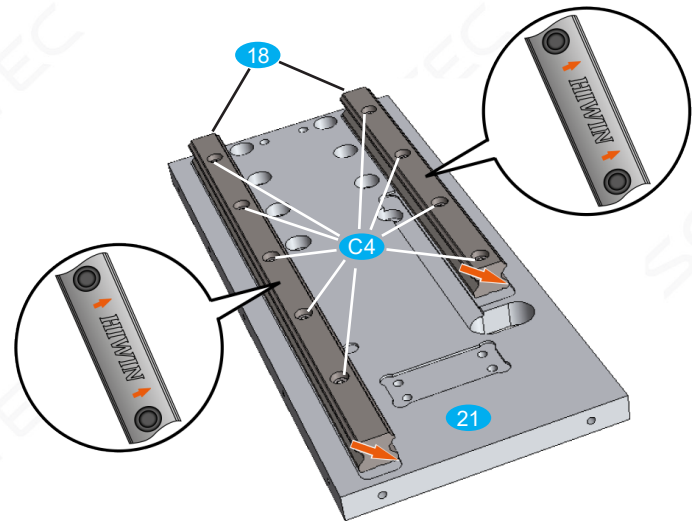

Fig. 24: Assembly of the linear rails
- Place the linear rails **18** on the plate **21** so that the reference edges (above the „HIWIN“ lettering, see Figure 24) of the linear guides point to the milled stop edges of the plate Z (red arrows).